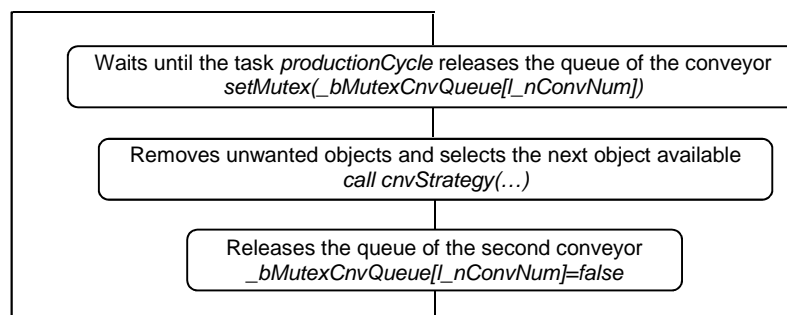
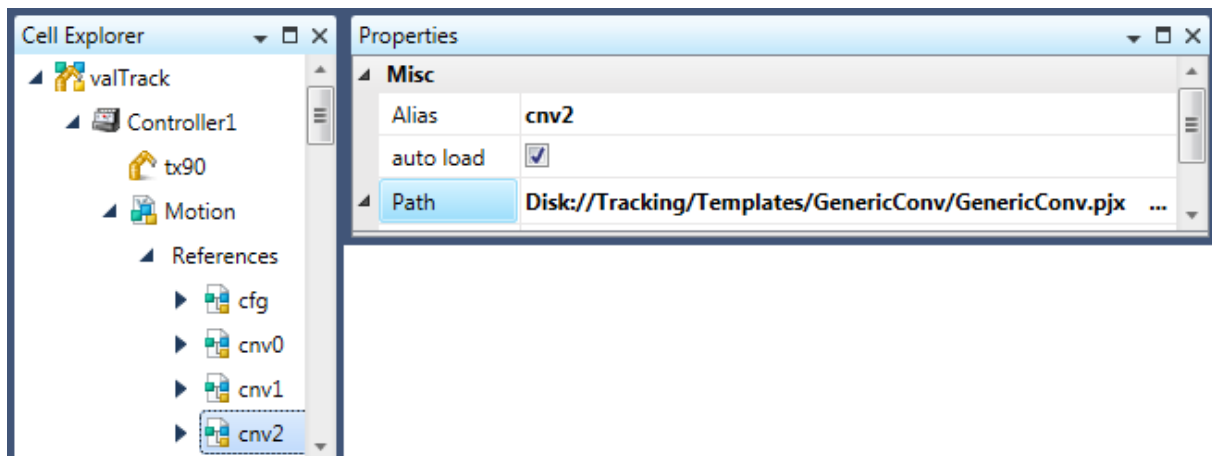

Figure 4.45
Figure 4.46
1.- The library Motion has two libraries to be used as conveyor libraries: *cnv0* and *cnv1*. Add as many libraries as needed. In the figure 4.45 there is one more library added as *cnv2*.
2.- All programs using the conveyor number as parameter (*x_nConvNum*) will have to be modified to be ready to handle the new libraries. In the figure 4.46 the program *getNextID* is modified to be ready to handle the new library added in figure 4.45. The modification for all programs is the same: add as many cases as conveyors libraries.